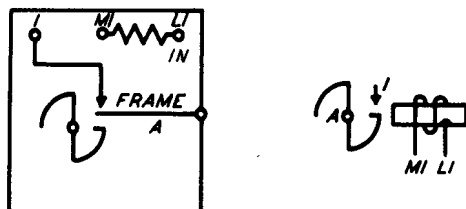

Fig. 110 – Winding and Spring Terminal Arrangement as Viewed From the Rear (terminal side) — 34-Type Signal
**4.18** The contact and winding terminals of signals are designated as shown in Fig. 110 through 112.